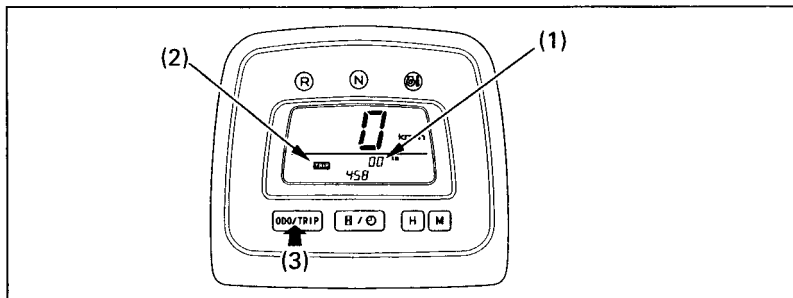

Fig. 2-18 (1) Tripmeter (3) Odometer/Tripmeter select button
When selected, the tripmeter (1) (Fig. 2-18) shows mileage per trip while the ignition is I (ON). To change the display (2) from odometer to tripmeter, press and release the Odometer/Tripmeter select button (3). To reset the tripmeter to zero, press the Odometer/Tripmeter select button and hold it in for at least two seconds.